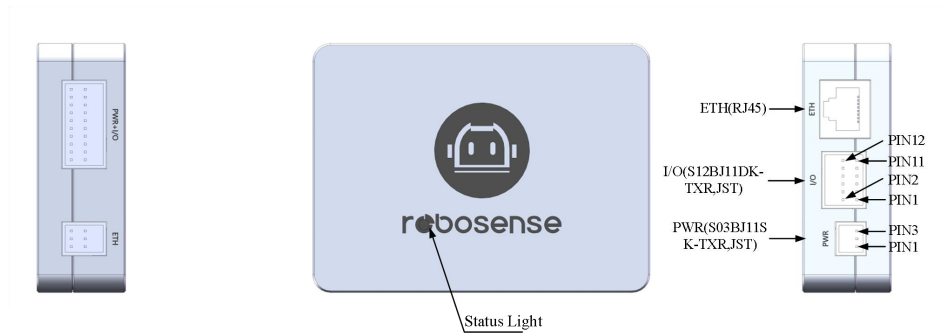

Figure 10 Interface Box Schematic
Figure 10 shows the schematic diagram of the interface box for Ruby Plus. The accessory interface box is equipped with a power indicator light and various interfaces, as shown in Figure 10. It can be connected to power input, RJ45 Ethernet port, and GPS input cable (for the version with the aviation plug interface box, the cable length is 3 meters; for other cable length requirements, please contact RoboSense). The specifications of the interfaces on the power box are detailed in Table 7-Table 9.
- c) After powering on, under normal working conditions, the red and green power indicator lights on the LiDAR's Interface Box will be constantly on. The positions of the indicator lights are shown in Figure 10 .